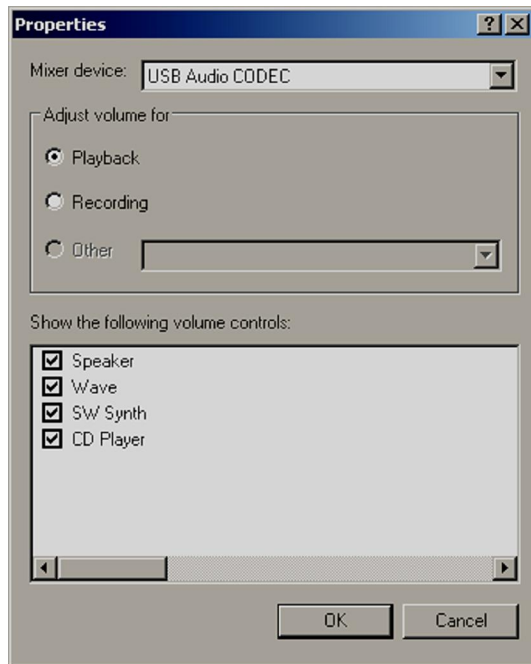

Figure 2 Properties Window
- The Properties window should now look like the one shown below in Figure 2. Verify that it does and then click OK.
Figure 2 ó Jumper Wiring Diagram